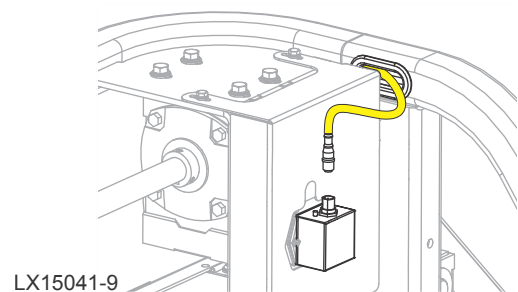

FIGURE 9
- Retrieve the yellow encoder cable from the mast. (See FIG. 9.)
- Plug in the keyed connector of the encoder cable to the encoder. (See FIG. 9.)